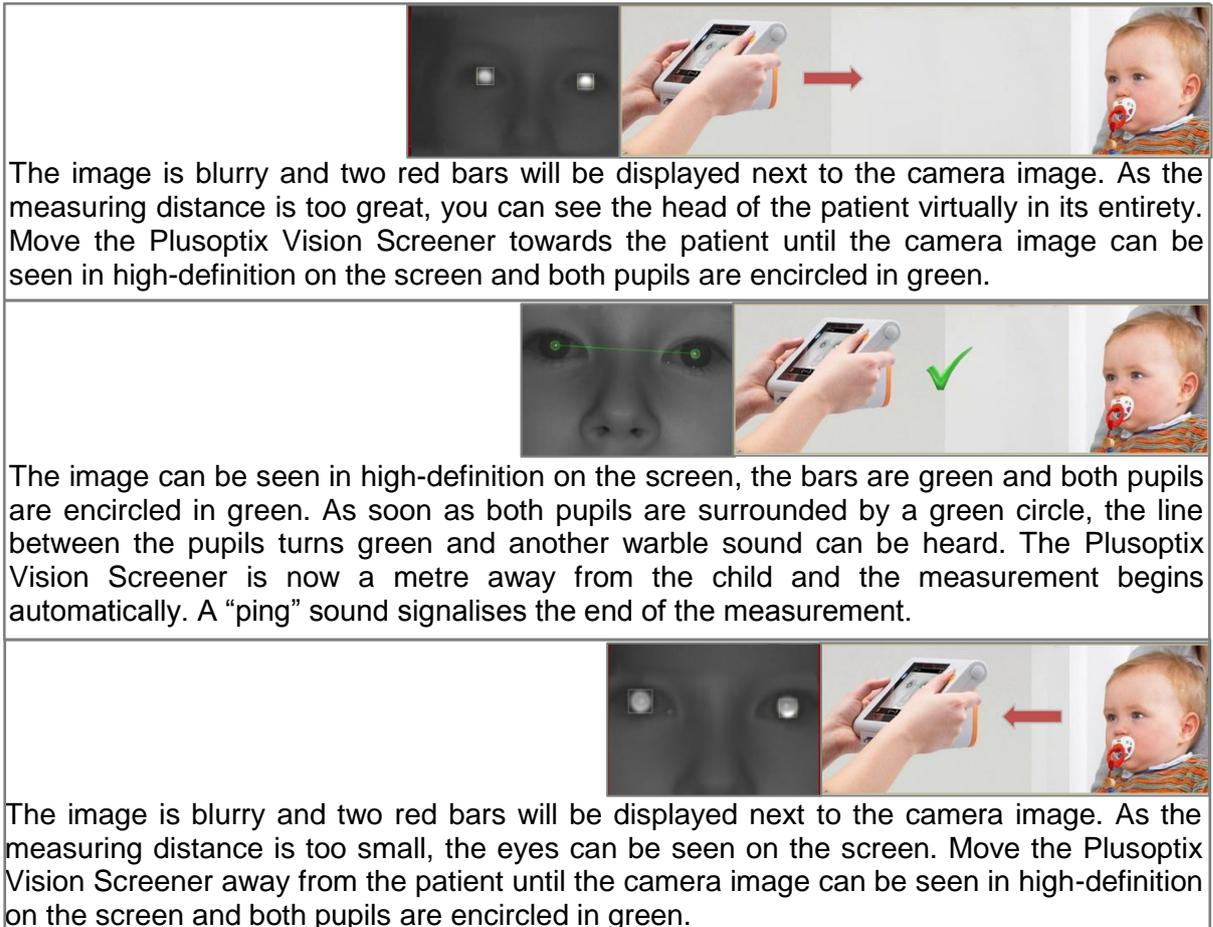

Figure 6: Detecting the correct measuring distance
Select an age group by touching the appropriate age range (see Figure 6). You must select the age group (1) in order to ensure the measurement values of the patient are compared with the correct age-specific referral criteria (see Chapter 1.3 “Selecting the referral criteria”).
- Adjust the Plusoptix Vision Screener so that both eyes can be seen on the screen and then slowly move the Plusoptix Vision Screener towards the patient until the camera image can be seen in high-definition on the screen. Firstly, the pupils will be surrounded by white squares (the image is still very blurred), then with red and finally with green circles (see Figure 6 on the next page).